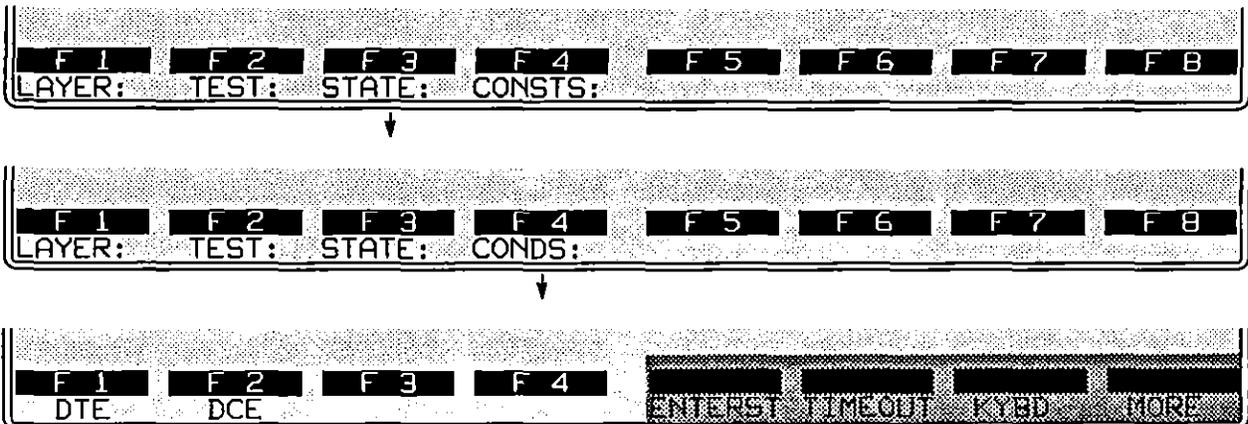

Figure 46-3 To monitor line conditions, first select *DTE* or *DCE*.
- A group of conditions and actions at Layer 3 on the Protocol Spreadsheet that facilitate SS#7 programming. Figure 46-3 shows the softkey path to the first rack of condition softkeys when the SS#7 package is loaded in at Layer 3.
When the Layer 3 SS#7 personality package is loaded in (via the Layer Setup screen), a set of conditions checks DTE and DCE leads both in monitor and emulate modes. This set of conditions is accessed by the DTE and DCE selections on the first rack of condition softkeys at Layer 3. See Figure 46-3.